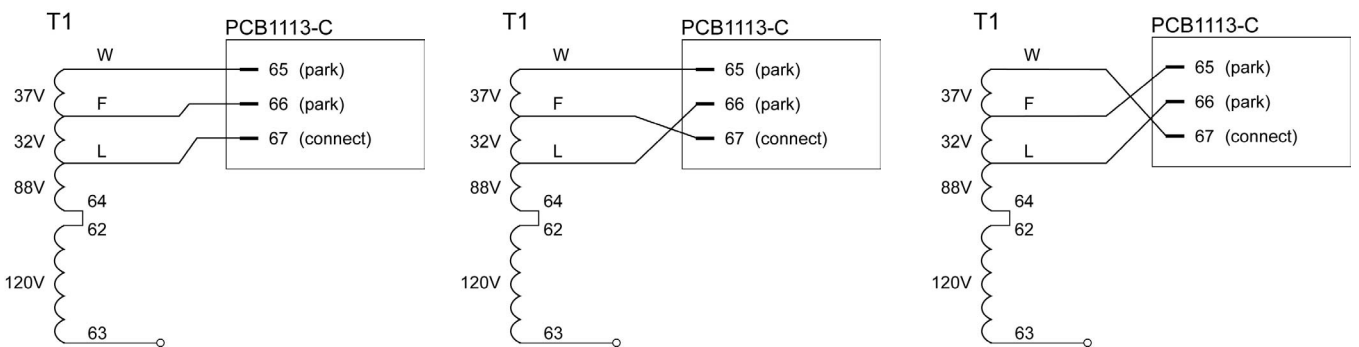

Figure 11. LP11 924 6&10 kVA: Output tap change
2. The output tap is set at 277VAC: Please refer to fig.11 and 11a and check the following.
2. The factory setting of the output tap (277Vac) has to be changed to 208Vac. Please refer to fig.11 and 11a and Proceed as follows.
1. The factory setting of the output tap (277Vac) has to be changed to 240Vac. Please refer to fig. 11 and 11a. Proceed as follows: